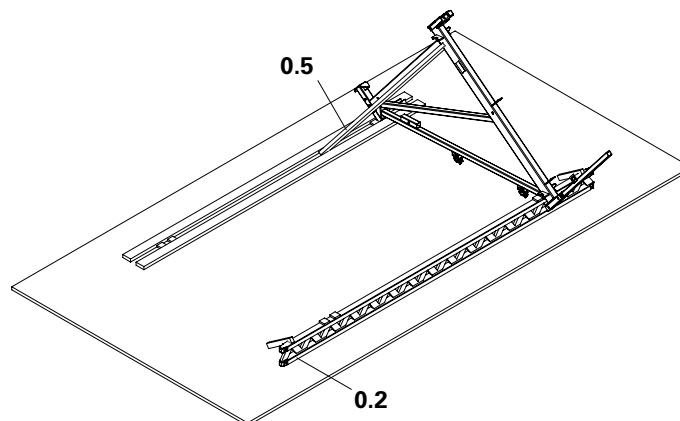

Fig. A1.03
- Diagonal bracing for securing bracket (0.5) 1 plank 40 x 120 mm, L = 2.0 m. (Fig. A1.03)